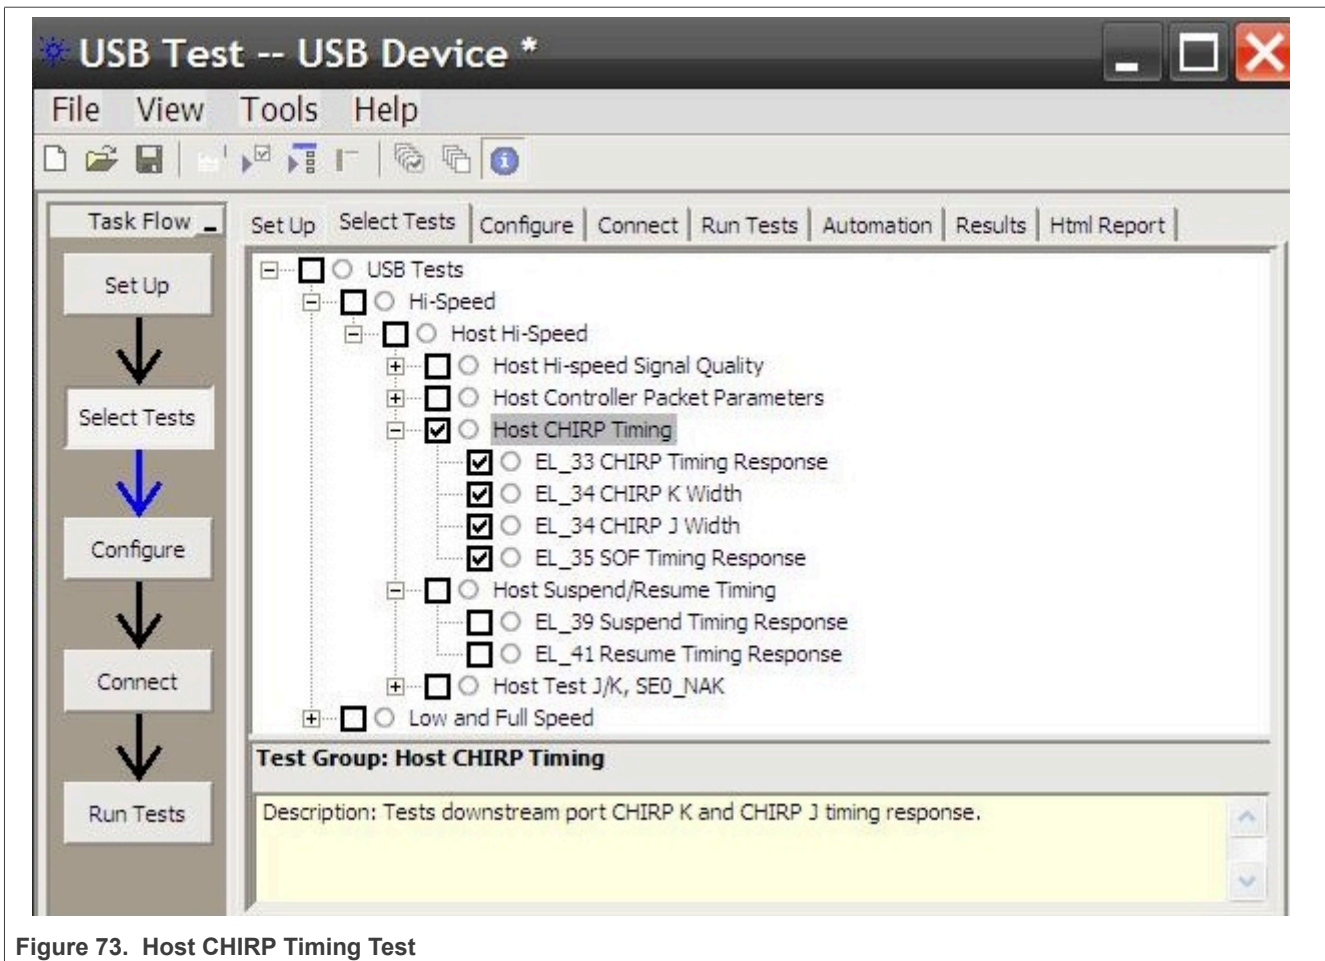

Figure 73. Host CHIRP Timing Test
1. Select the test items in the USB Automated Test Software on Oscilloscope as shown in Figure 73 below, and make sure you set the Test Type configuration option to “Hi-Speed Near End” before running the test.